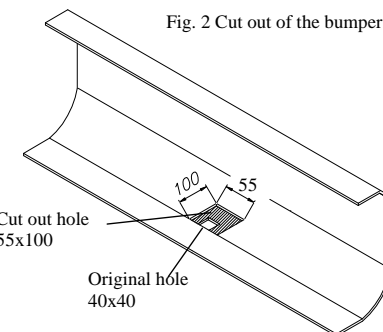

Fig. 2 Cut out of the bumper
- Left side- fix using M10x35mm with special nut M10 (pos. E), which should be slid through the elongated holes (holes pos. 3 and 4 should match with original holes).
- Right side- do the same what on the left side after drilling hole $\varnothing 11$ through hole (pos. 1) and element (pos. D).
- Reassemble the bumper after cut out its fragment (see fig. 2).